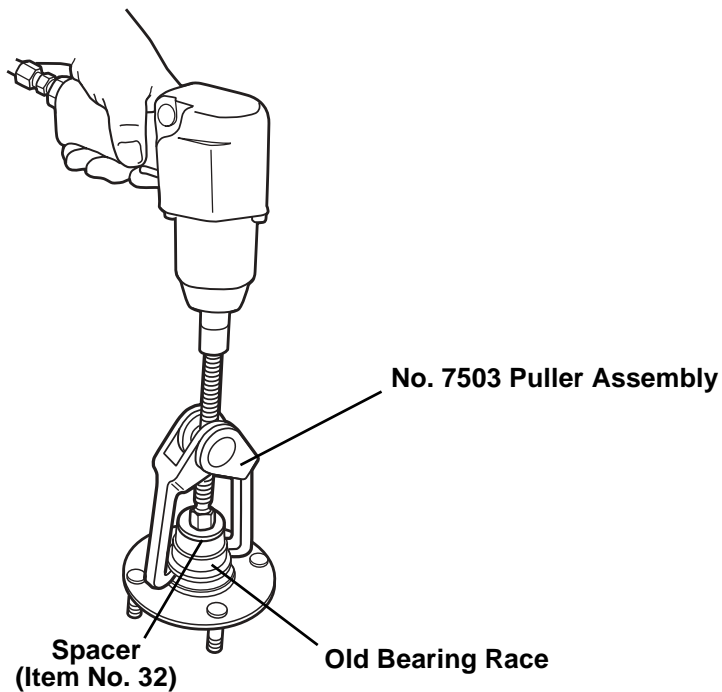

Figure 8
9. If the race from the old bearing is still stuck in the hub, use No. 7503 (No. 33) with a spacer (No. 32), as shown in Figure 8, to remove the race.